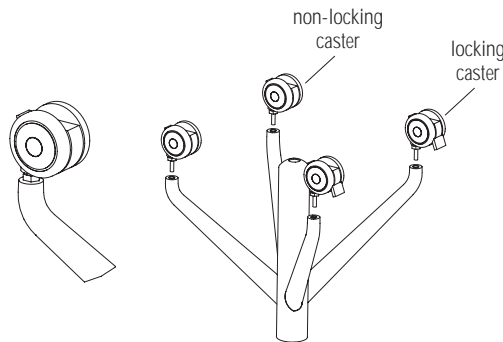

Figure 3
4. Attach glides and/or casters to the bases. See illustration and follow the guidelines below (Figures 3 & 4):
Insert and tighten all four casters using $\frac{3}{4}$ " open-end wrench. The two locking casters are to be at adjacent positions and/or toward the front edge of the table (Figure 3).
Insert glides and casters as described previously. The glides should be located towards the front edge of the table (Figure 3 & 4).